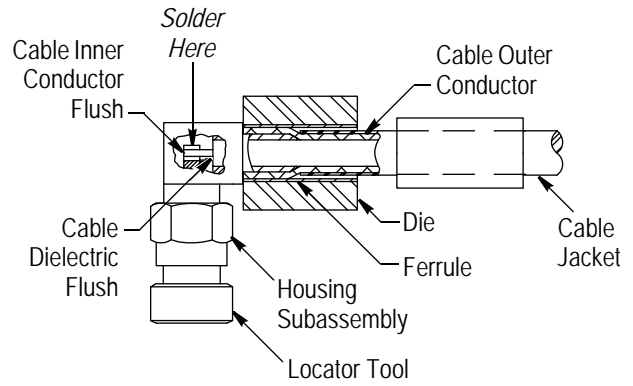

Figure 4
- Secure the threads of the housing subassembly to the locator tool. See Figure 4.
- Hold the cable dielectric and inner conductor flush as shown in Figure 4.
- Slide the ferrule over the flared portion of the cable outer conductor. See Figure 4.